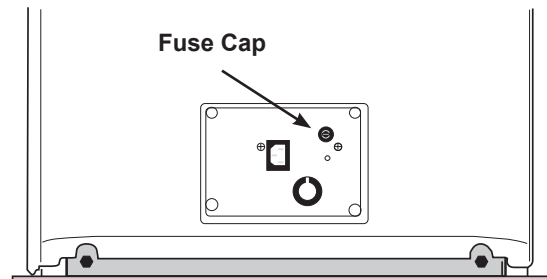

Figure 40.
2. Remove fuse cap from back of table near the power cord (Figure 40).